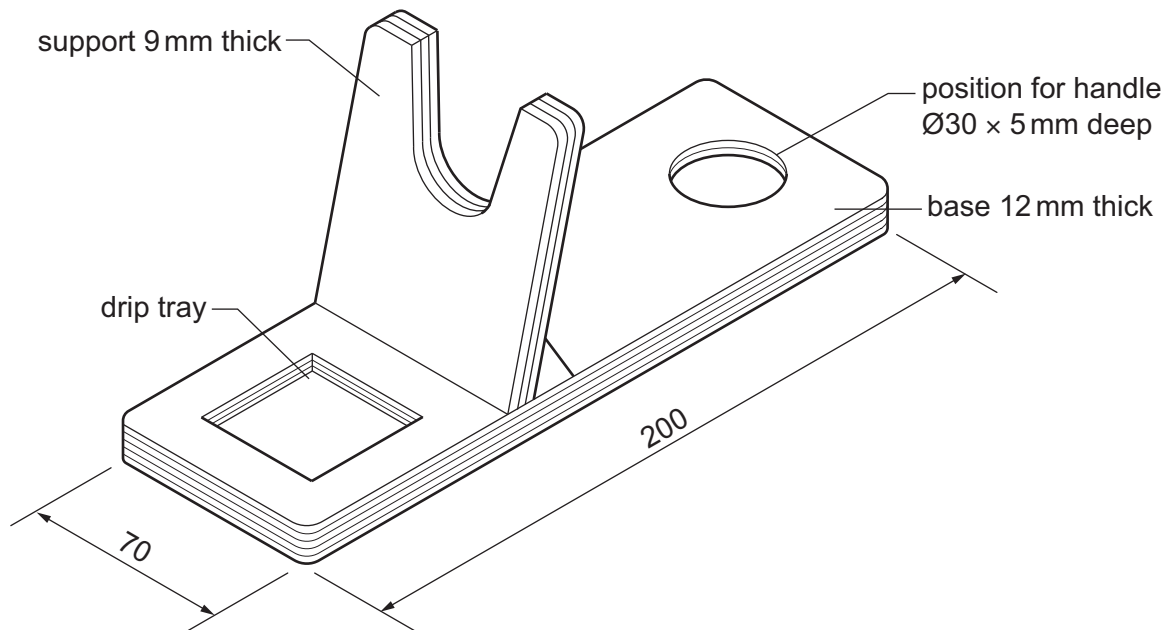

Fig. 13.1
- 13 Fig. 13.1 shows a design for a stand for a hot melt glue gun. The stand is made from plywood and a batch of 12 stands will be produced in a school workshop.